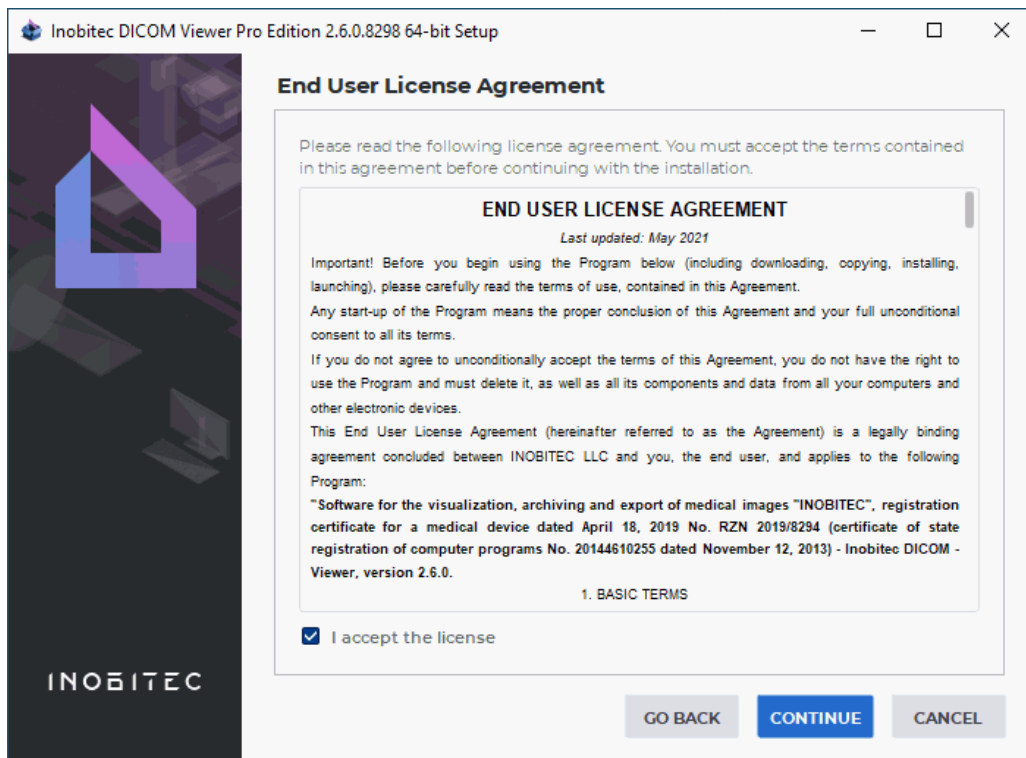

Figure 3: License Agreement
4. Read the License Agreement carefully. Its text is also available from the link [inobitec.com/eng/about/viewerLic/](http://inobitec.com/eng/about/viewerLic/). If you agree the terms and conditions, check the item **I accept the license** and click **CONTINUE** (Fig. 3). Otherwise click **CANCEL** and in the confirmation dialog box that appears click **Yes**.